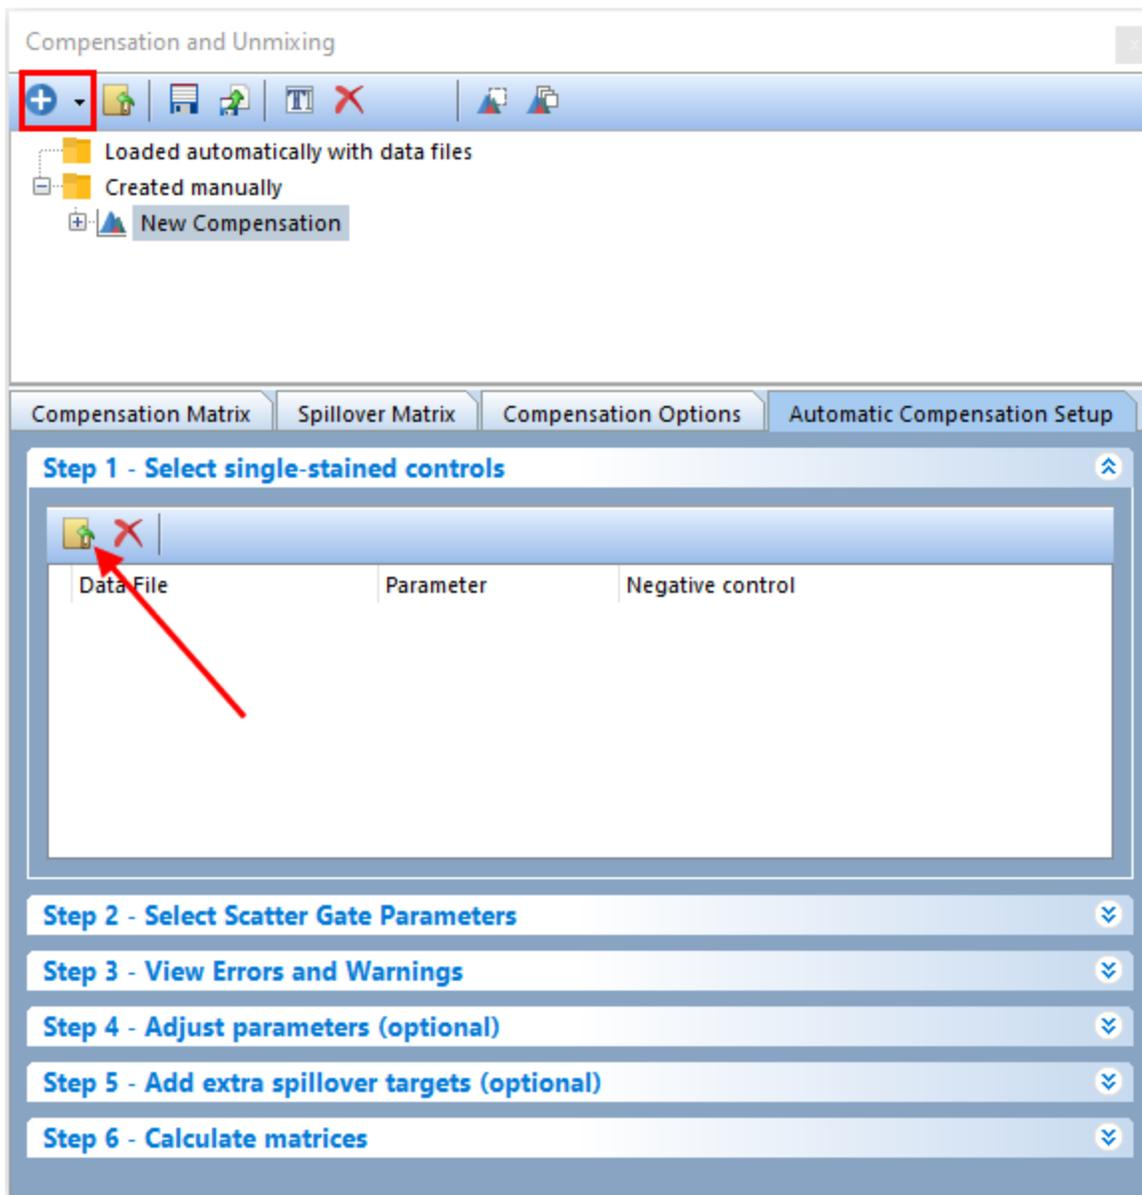

Figure 1. Compensation and Unmixing navigator: use to add new compensations, edit definitions, create Automatic Compensations, and unmix spectral signatures
5. Click on the **Tools** tab → **Compensation and Unmixing** command to open the **Compensation and Unmixing** navigator (Figure 1).
7. Click on the blue plus button, , to **Add a new compensation** (Figure 1, red outline).
8. A text box highlighted in blue will appear with the text **New Compensation** (Figure 1).
9. Click on the Add data for compensation button, , in the **Automatic Compensation Setup**→**Step 1 - Select single-stained controls** window (Figure 1, red arrow).